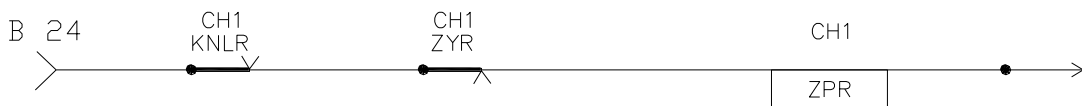

FIG.4
- Fig 4 gives the circuit of LXNR